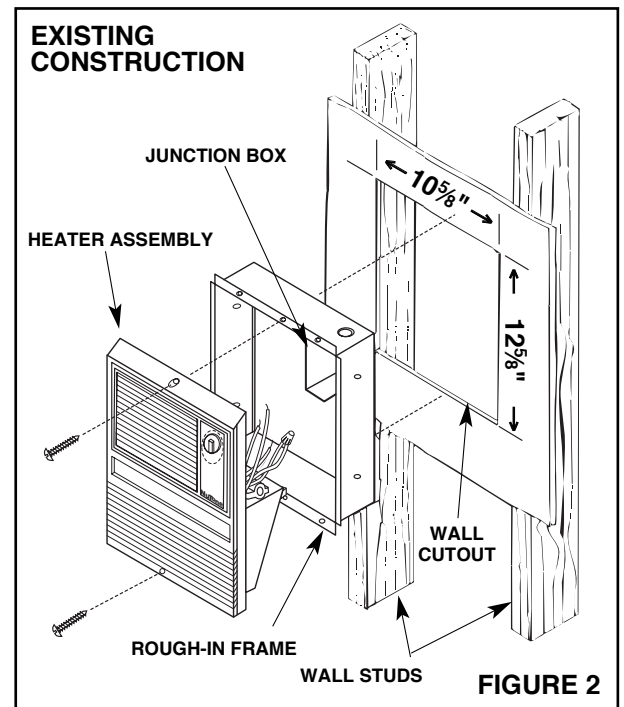

FIGURE 2
2. **Refer to Figure 2.** Make wall cutout next to a wall stud. Cutout size: 12⅝" high x 10⅝" wide. (with frame.)